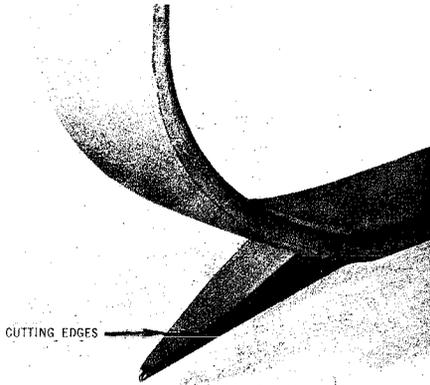

Fig. 17—Gaff Cutting Edges
7.01 During normal use of climbers the edges along the inner surface (cutting edges), Fig. 17, may become dull. The honing stone should be used to maintain sharp edges. Remember that even a dull gaff can cut your finger, so hone carefully.